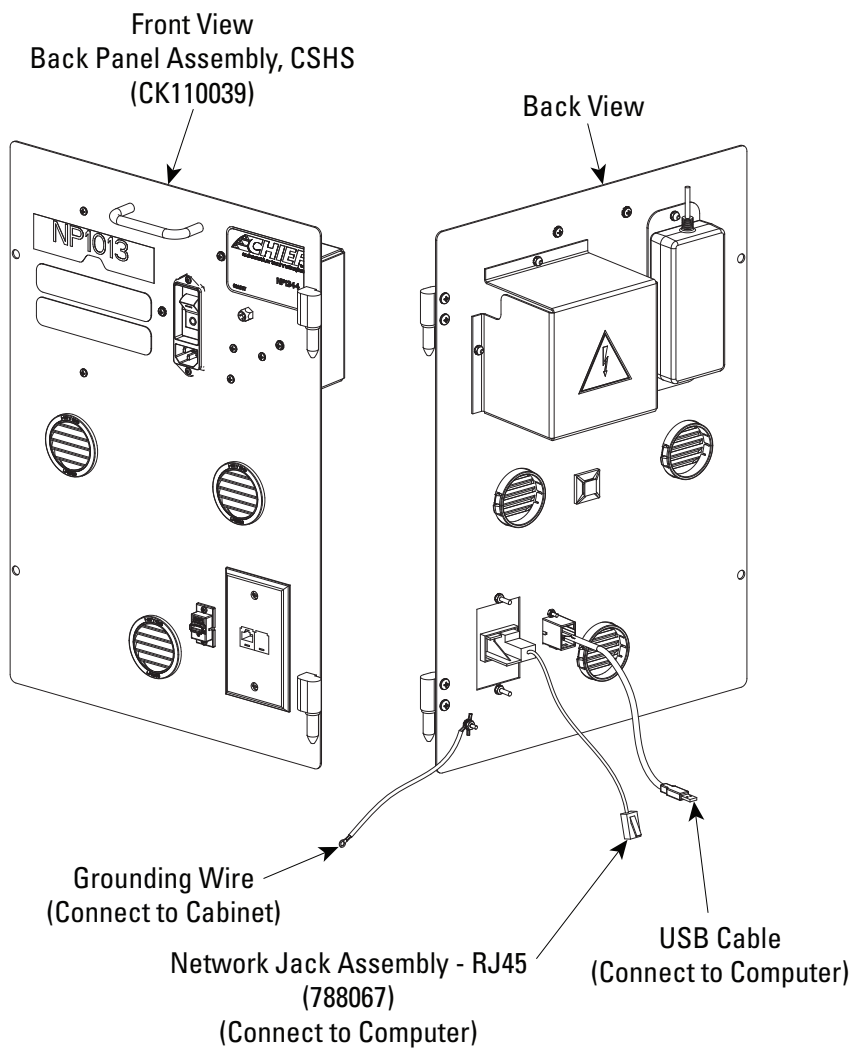

Figure 37
7. Attach Back Panel Assembly, CSHS (CK110039) to cabinet. See Figures 37 and 38 below for the remaining steps.